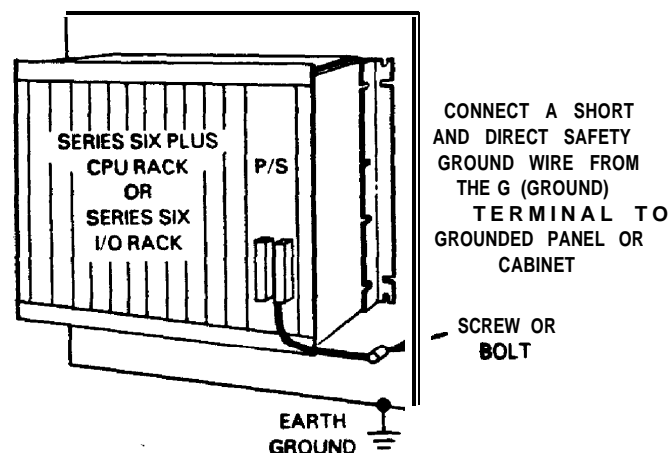

Figure 3.13 RACK SAFETY GROUND WIRING
1. **Safety Ground.** This connection should be made from the GND terminal or the rack power; supply directly to system earth ground. The purpose of this connection is to provide a guaranteed current path to ground in case a malfunction occurs within the rack or the rack is incorrectly wired. Figure 3.13 illustrates recommended wiring for the rack safety ground.